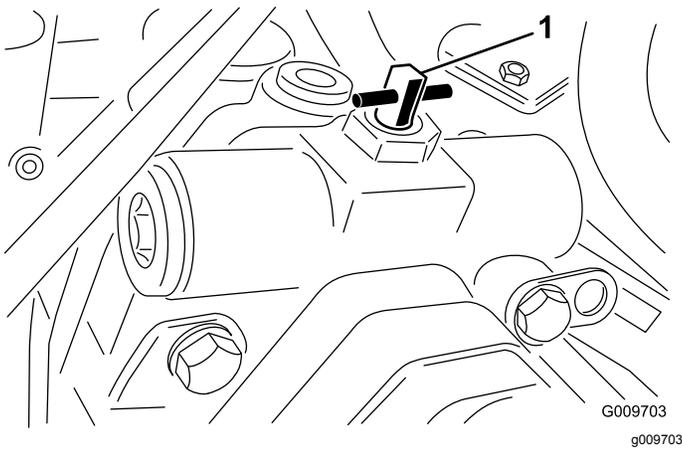

Figure 17
2. Rotate the bypass valve 90° (1/4 turn) in either direction to open and allow oil to bypass internally (Figure 17). Because fluid is bypassed, the machine can be slowly moved without damaging the transmission. Note the position of the valve when opening or closing.